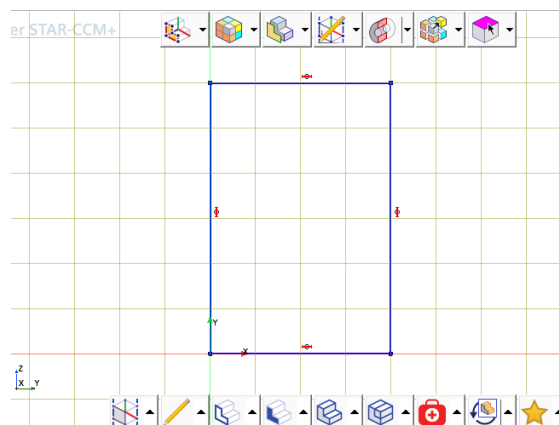

Figure 8: Initial duct cross-section sketch.
7. Create a rectangle spanning 4 squares horizontally and 6 squares vertically by clicking on the origin of the sketch plane and again on the opposite corner of the rectangle. The sketch should look similar to Figure 8.